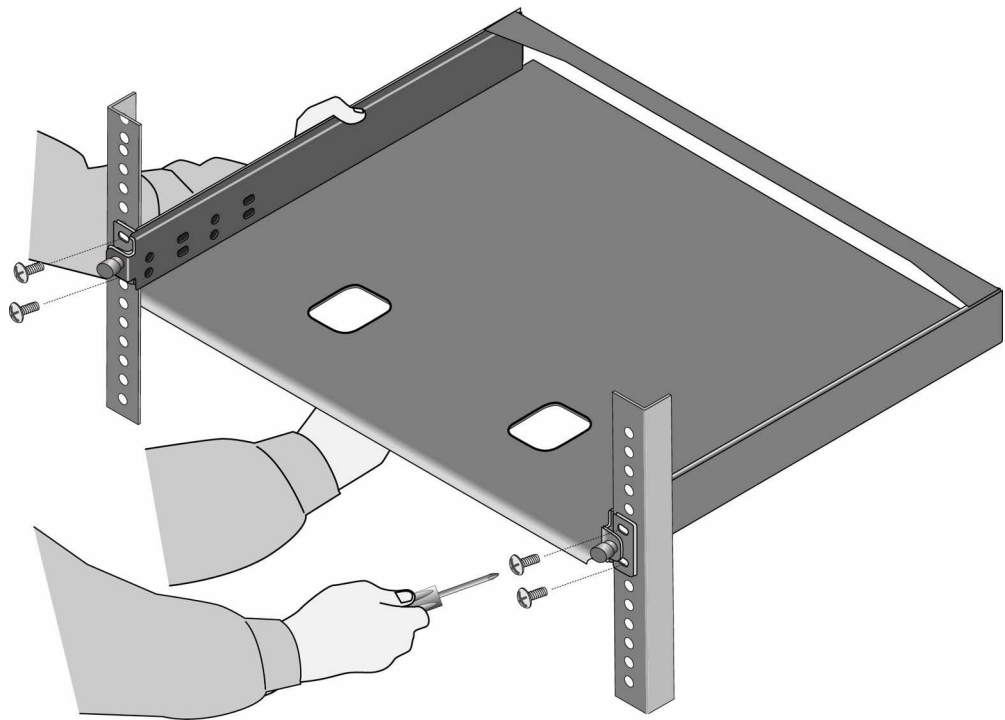

Figure 32. Installing the RKMT-J15 Tray in the Equipment Rack
3. While having another person hold the RKMT-J15 tray in the equipment rack, secure the tray using four standard equipment rack screws (not provided). See Figure 32.